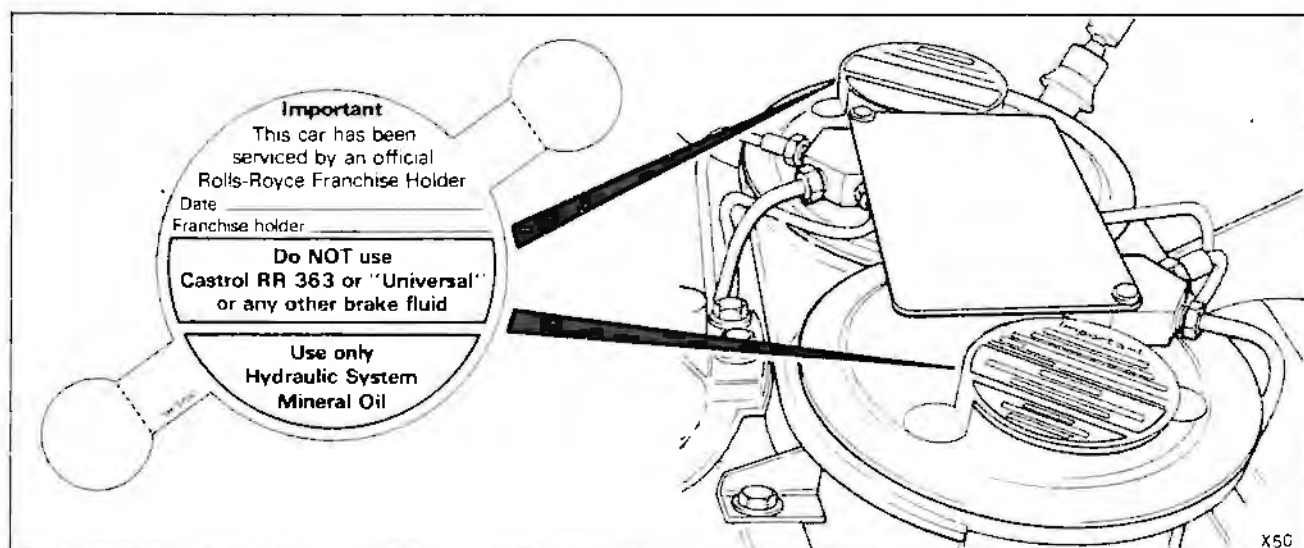

Fig. 5
3. Carefully affix the labels over each filler lid, pressing the 'feet' firmly onto the reservoir top (see fig. 5).